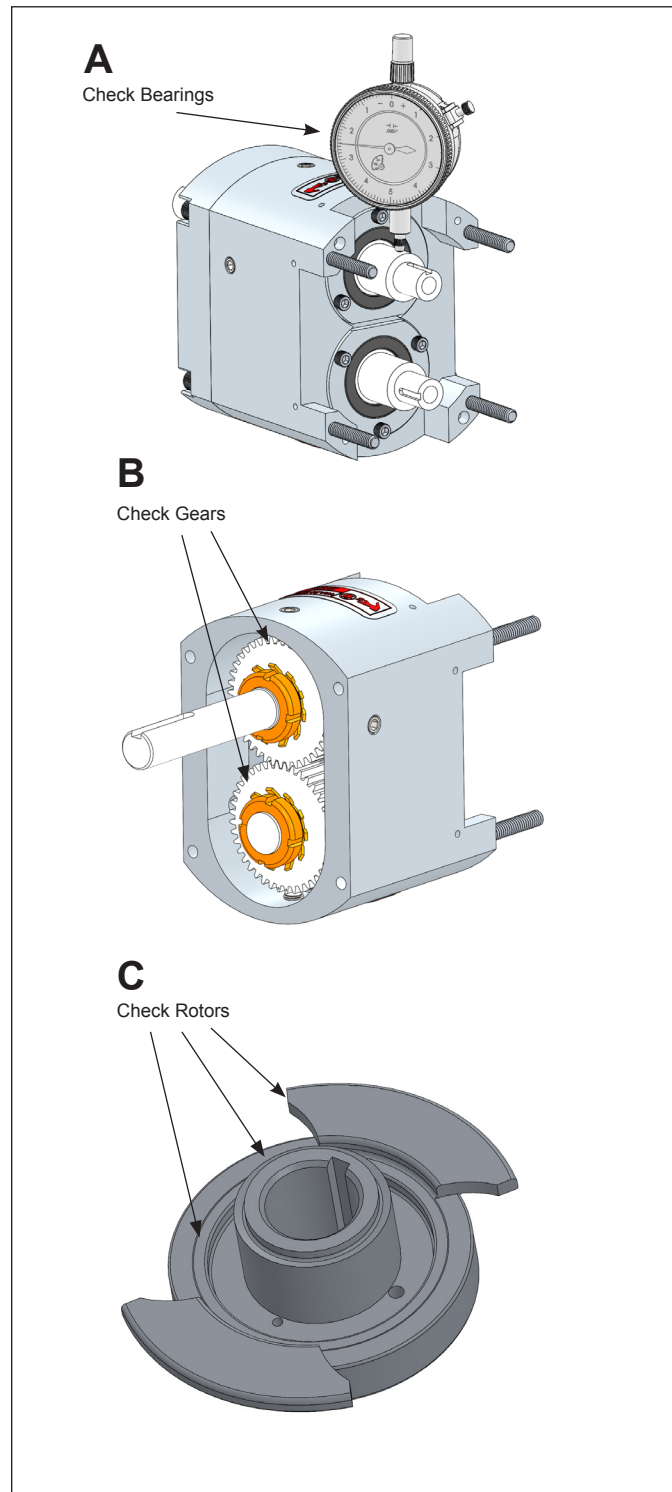

Figure 22. Annual Maintenance Checks
- Check the gear case bearings by measuring the shaft's radial movement with a dial indicator (*Figure 22, A*). If the movement is greater than or equal to the rotor-to-body clearance found on *page 37 (Table 10)* the bearings should be replaced.
- Remove the gear casing cover (see *page 30* for disassembly information) and inspect the gears for wear and damage (*Figure 22, B*). Also check for backlash and looseness.
- Inspect the rotors for signs of wear and stress cracks around the areas defined in *Figure 22, C*. Replace, if necessary.